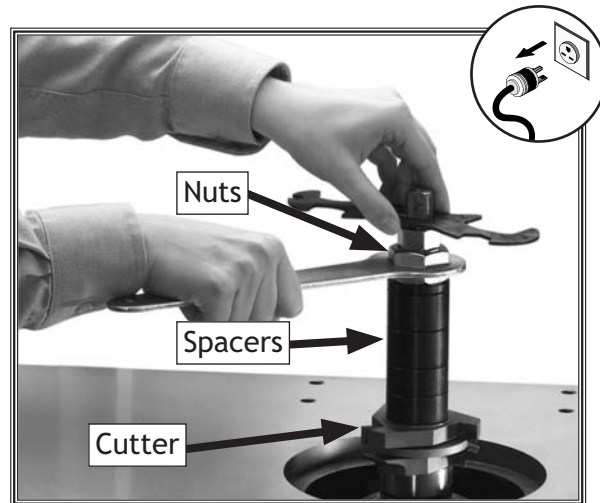

Figure 33. Tightening the spindle nuts to secure the spindle components.
5. Place the additional spacers onto the spindle as necessary (see **Figure 33**).
6. Thread one spindle nut tightly onto the spindle to secure the components, then thread the second spindle nut against the first to act as a lock nut, as shown in **Figure 33**.